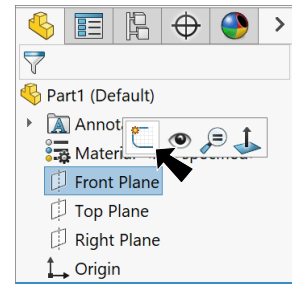

Fig. 1
- Step 2. Click **Front Plane**  in the Feature Manager and click **Sketch**  on the context toolbar, **Fig. 1**.
- Step 3. Click **Circle**  (S) on the Sketch toolbar.